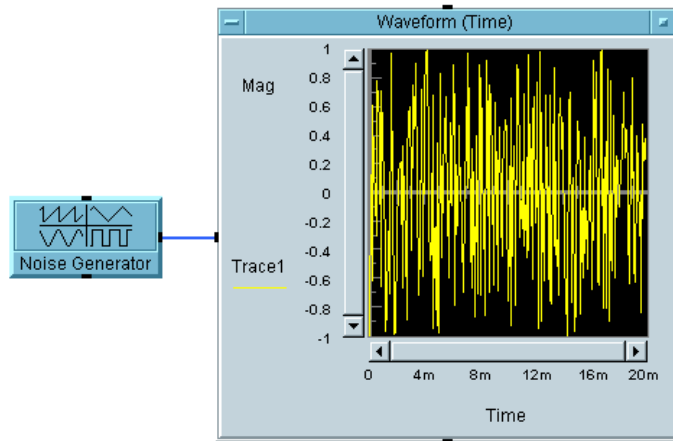

Figure 4-14. Displaying a Waveform
3. Connect the data output of the `Noise Generator` to the data input of `Waveform (Time)` and run the program. It should look like Figure 4-14.